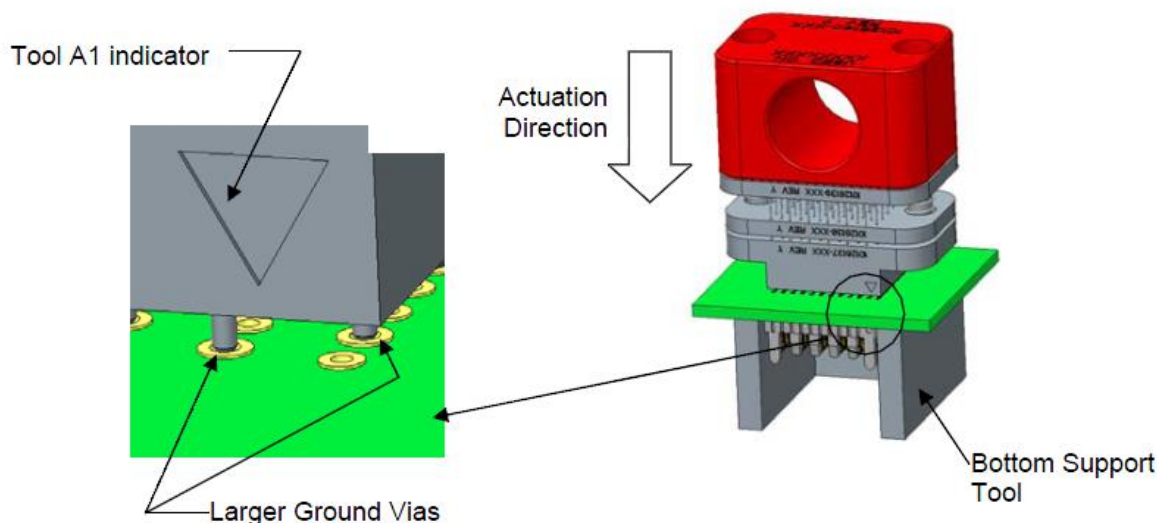

Figure 32: Removal Tool Procedure
- With the connector to be removed facing downward, place the board assembly over a bottom support tool (not included) that is appropriate for the board layout (see figure 32).